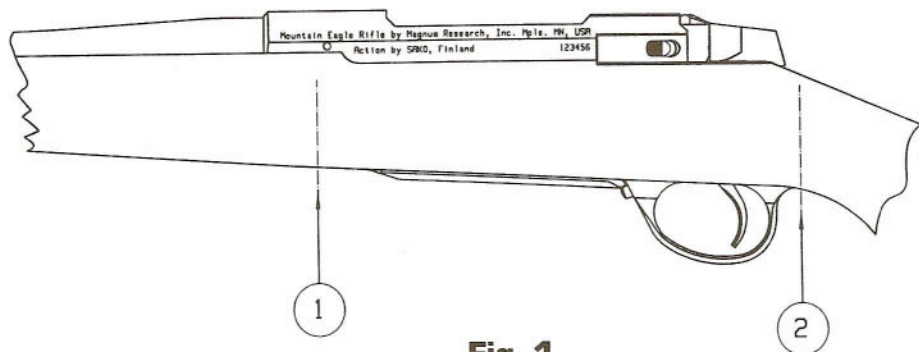

Fig. 1
IDENTIFICATION (Fig. 1)
- Check the tightness of fastening screws 1 and 2 (Fig. 1 - page 3).